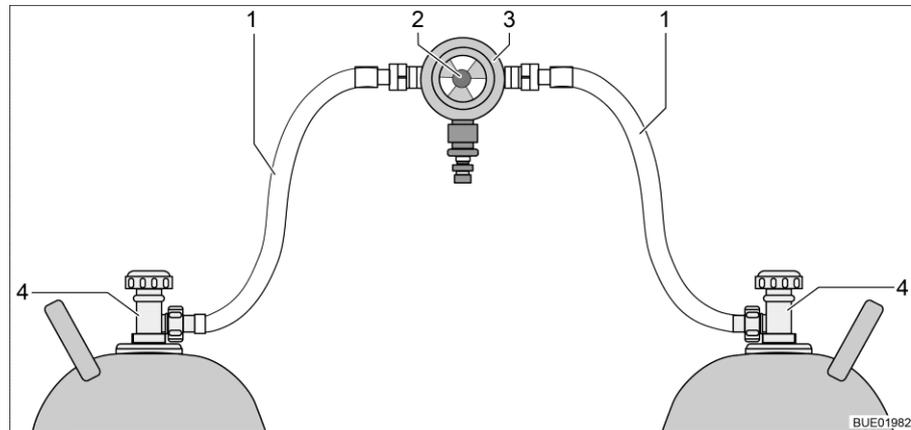
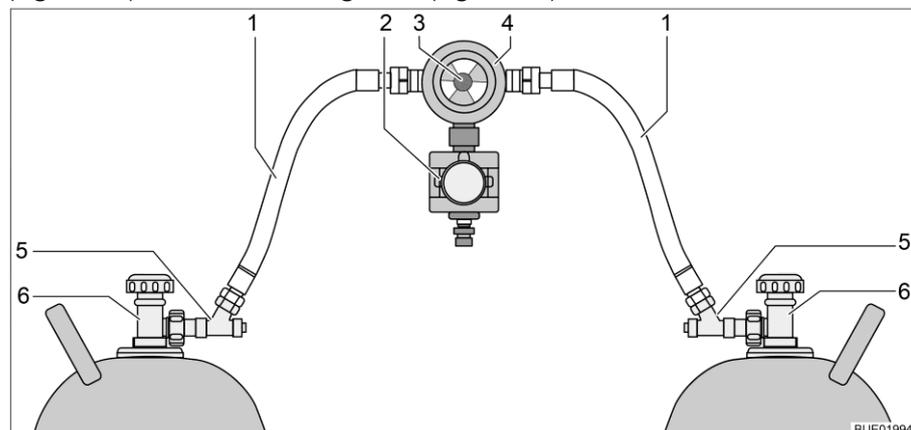

Fig. 170 Gas bottle switching facility
Fig. 171 Gas bottle switching facility with CPU
The gas bottle switching facility consists of a combined gas pressure regulator with reversing valve and indicator (Fig. 170,3). The gas bottle switching facility is installed between the two gas tubes (Fig. 170,1).
The gas bottle switching facility consists of a combined gas pressure regulator with reversing valve and indicator (Fig. 171,4), and an electrovalve (Fig. 171,2). The electrovalve blocks the gas supply to the vehicle in the event of a full braking, an accident, or an unusually great inclined position. The gas bottle switching facility is installed between the two gas tubes (Fig. 171,1) with hose break guards (Fig. 171,5).
Use the knob (Fig. 170,2 or Fig. 171,3) on the gas bottle switching facility to select which of the gas bottles is to be used as a primary bottle and which is to be used as a reserve bottle.
Only the electrical functions can be switched at the operating unit (Fig. 172). The regulator taps on the gas bottles (Fig. 170,4 or Fig. 171,6) must be opened and closed manually.
- Open the regulator taps of the gas bottles (Fig. 170,4 or Fig. 171,6).
- Press the hose break guards (Fig. 171,5) successively for 10 seconds.
- Use the knob (Fig. 170,2 or Fig. 171,3) on the switching facility to select the gas bottle which is to be the primary source of gas (primary bottle). Always turn the knob as far as it will go.
- Close the regulator taps of the gas bottles (Fig. 170,4 or Fig. 171,6).